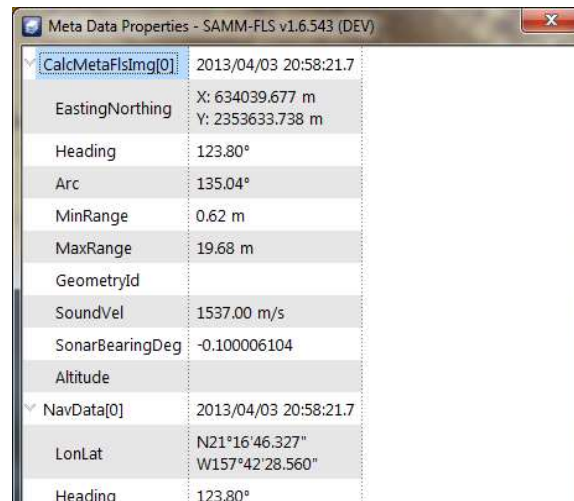

Figure 70. Meta data properties window
2. Expand each items to view detailed information (Figure 70).